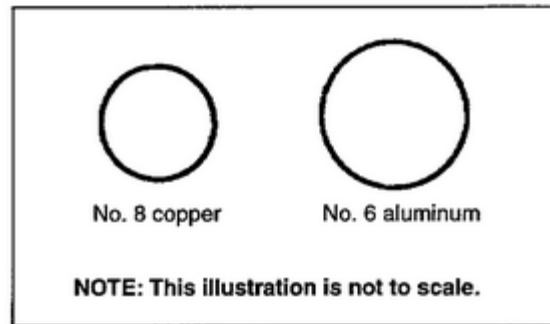

Figure 2-4. Size of conductor
b. The size of the conductor used between the power panel and the grounding rod is determined by the ampacity of the system being grounded. For a 100-ampere service, the ground conductor must be No. 8 copper or No. 6 aluminum (Figure 2-4).